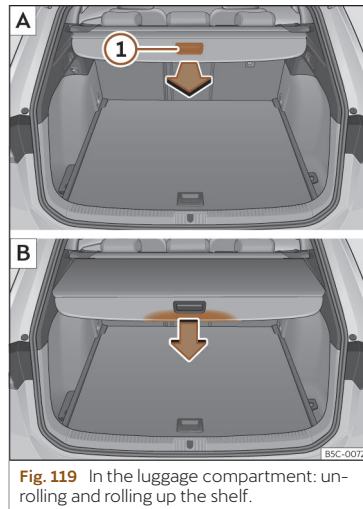

Fig. 119 In the luggage compartment: unrolling and rolling up the shelf.
- Pull evenly on the rear shelf using its handle >>> **Fig. 119** ① **A** in a backwards direction until it audibly clicks into place.
- Press on the handle of the rear shelf in the direction of the arrow to release it >>> **Fig. 119** **B**.